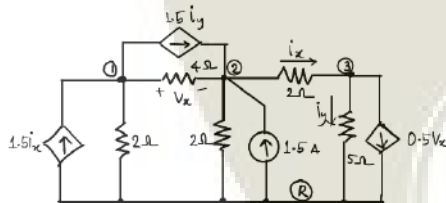

Figure 3: Figure for question 11 (b).
- (b) Find all voltages and branch currents in the network shown in Fig. 3 by node analysis, and applying network graph principles. (8)